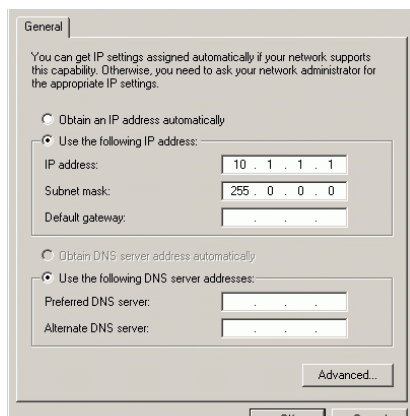

Figure 2-20 Internet Protocol (TCP/IP) Properties Dialog Box
5. Double-click the *Internet Protocol (TCP/IP)* entry. The *Internet Protocol (TCP/IP) Properties* dialog box displays (Figure 2-20).